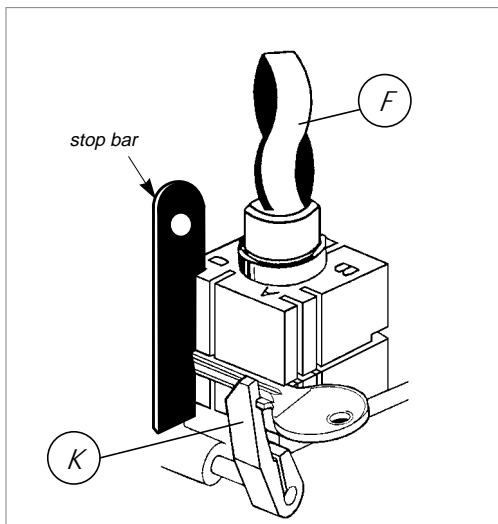

Fig. 15
- b) the key stop butts against the gauge (K) or the key tip is up against the stop bar (fig.15).
- c) close the jaws by turning the knobs (F).
- 1) Unscrew the knobs (F) by a couple of turns.